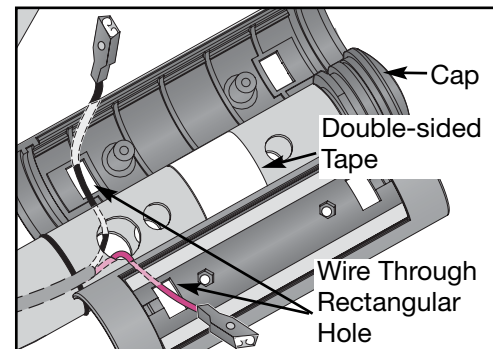

Figure 29
- D. Place each plastic grip near the handrail and pull each wire through a rectangular hole. See Figure 29. **NOTE:** Don't let the wires slip back into their holes.
- E. Fit the three plastic parts in position (the housing (2) and the cap (1)) and continue holding all plastic parts through the next step. See Figure 29.